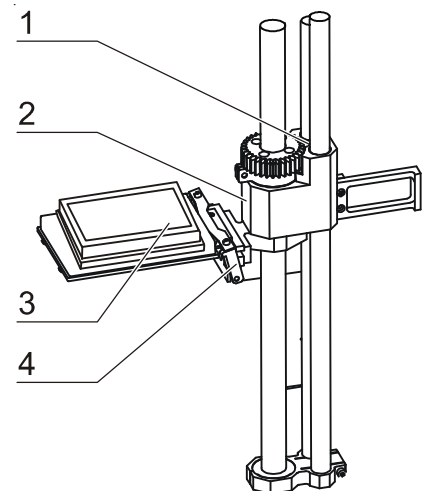

Fig. 23,
1. **Fig. 23:** Depress the locking pin [1] with a suitable tool, e.g. an angled allen wrench (4 mm) and align the handler [2].
1. **Fig. 23:** Check to see if the strap [4] can move freely.